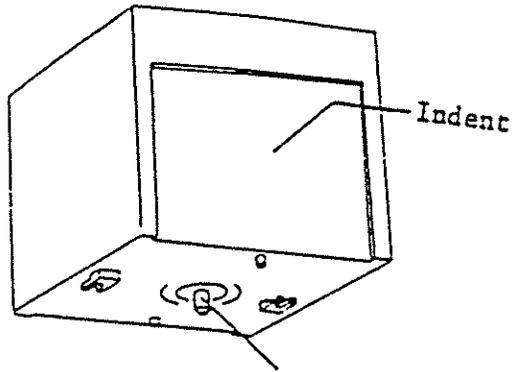
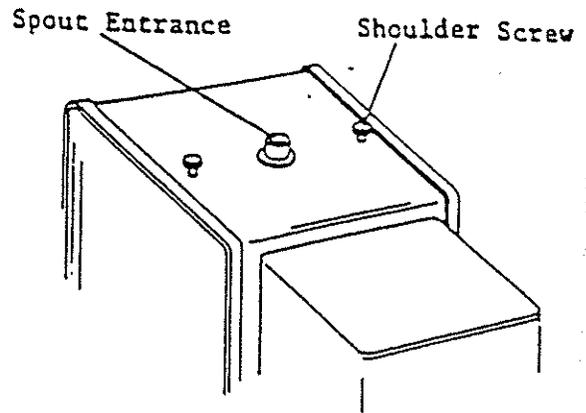

Fig. 1
Fig. 2
- b. Place the reservoir on the unit with the spout going into the mating part on the top of the unit (see Fig. 1 and Fig. 2). When placing reservoir on the unit, the indents on the reservoir (see Fig. 1) must face forward and back. Place the reservoir slightly at an angle to the unit with right-hand front corner slightly back. Rotate the reservoir clockwise, i.e., bring the right-hand corner toward the front of the unit until reservoir bottom clips catch and stop on the hold-down screws.